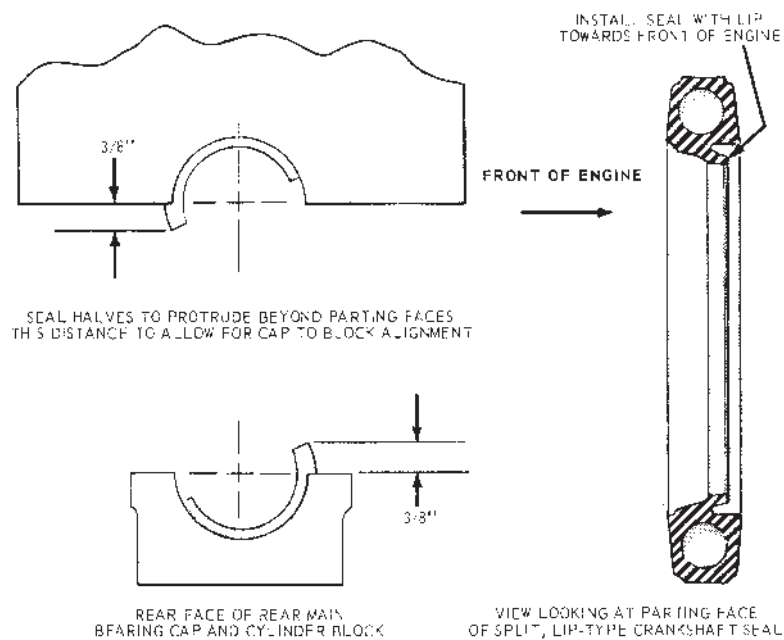

Fig. 33 Installing Crankshaft Rear Oil Seal
8. Install the lower seal in the rear main bearing cap with undercut side of seal toward the FRONT of the engine (Fig. 33); allow the seal to protrude approximately 3/8 inch above the parting surface to mate with the upper seal when the cap is installed.
- Dip the lip seal halves in clean engine oil. Carefully install the seal halves in the block and rear main bearing cap with the undercut sides of the seal toward the FRONT of the engine (Fig. 33) and approximately 3/8 inch protruding above the partial surface.